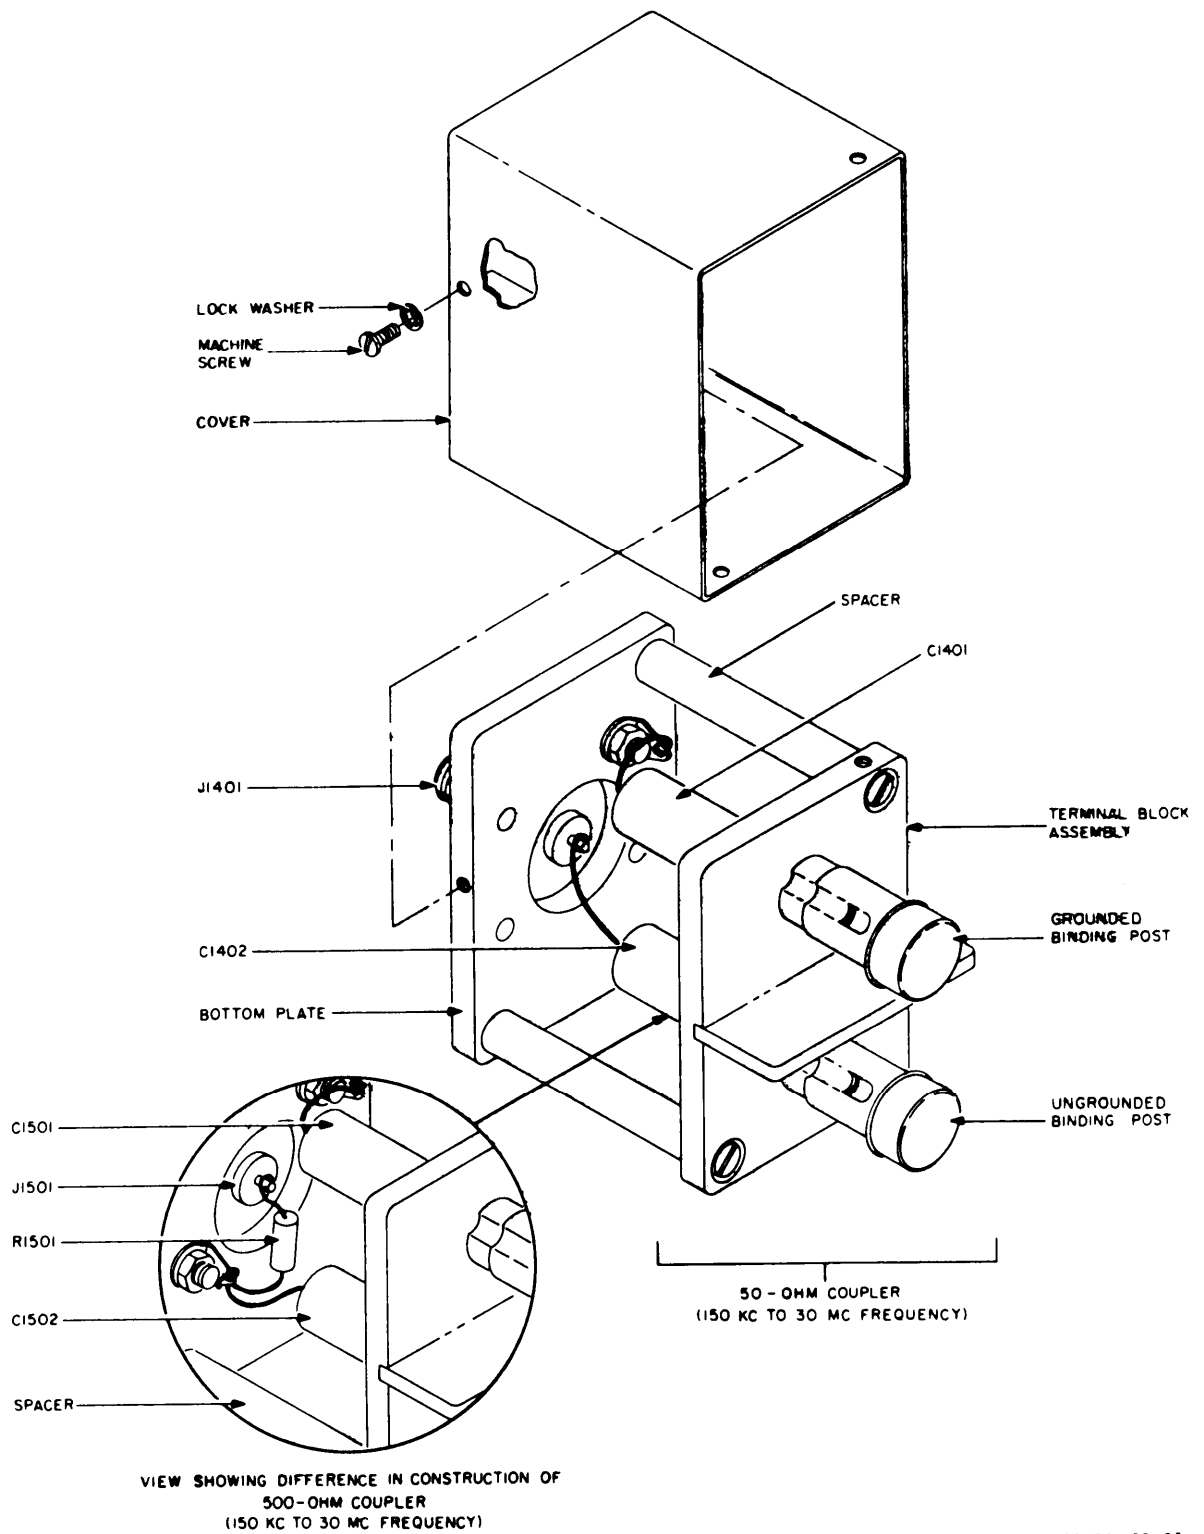

Figure 80. Couplers, Radio Frequency Interference CU-891/URM-85 and CU-892/URM-85 parts location diagram.
c. Coupler, Radio Frequency Interference CU-892/URM-85 (fig. 38 and 80). Although the CU-892/URM-85 (fig. 80) is designed for use with 500-ohm impedance audio-signal or powerline two-wire networks, a comparative check of its operating efficiency can be obtained by proceeding in a similar manner to b above. The mismatch between the 50-ohm output
<p>protruding end of center conductor on output jack J1501 (insert view, fig. 80), or bent or damaged pin on J1501. Repair or replace the defective part.</p>